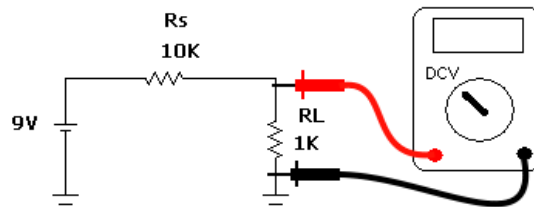
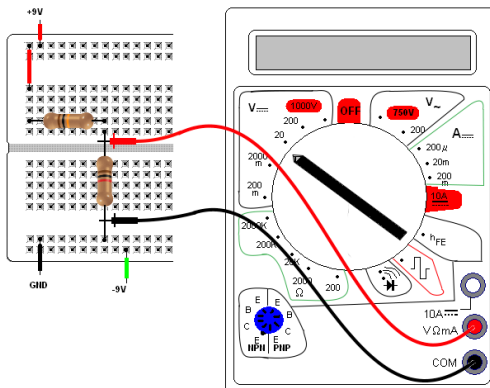

Figure 2 – Voltage divider - Circuit
Figure 3 – Voltage divider in breadboard
- 1) For the voltage divider circuit in Figure 2, calculate the voltage across the load (1 k). Use the voltage divider expression.
- 2) Assemble the circuit in Figure 2 according to the layout suggestion in Figure 3, measure the voltage across the load (1 k).